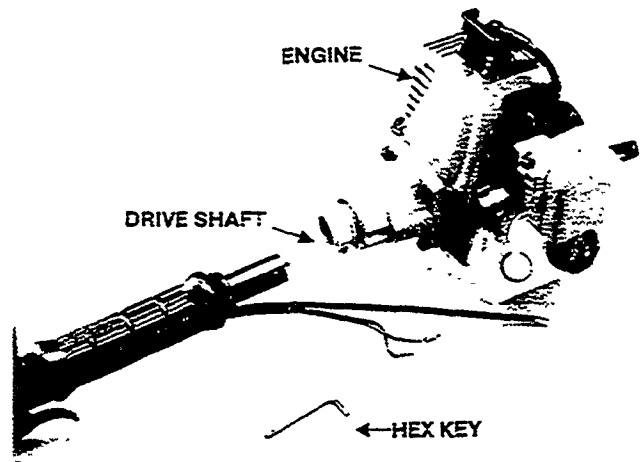

Figure 1A
- Tighten the clamp screw securely with the hex key supplied (Figure 1A).